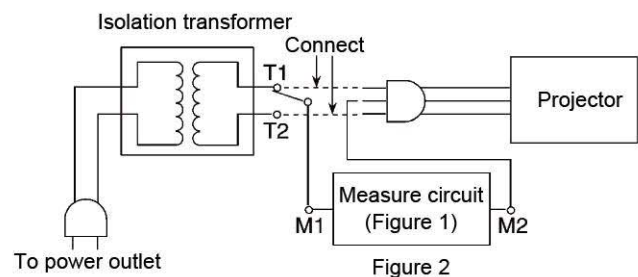

Figure 2
2. Connect the circuit as figure 2 shows. Plug the power cord into an electrical outlet
3. Connect M1 to T1 as figure 2 shows, and measure the voltage